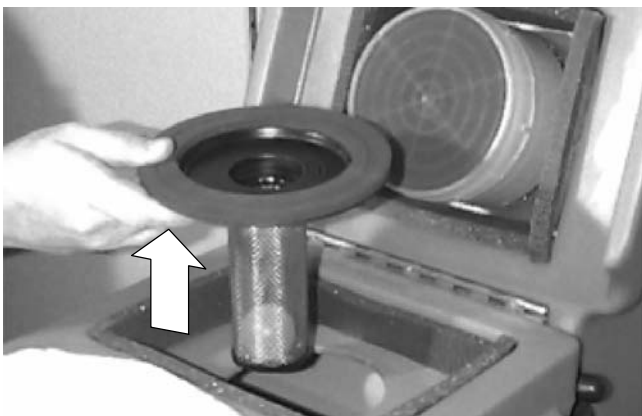

FIG. 15
3. Clean ball float screen inside tank after every use. Lift float screen assembly out of tank (*Figure 15*). Be certain to replace screen securely.